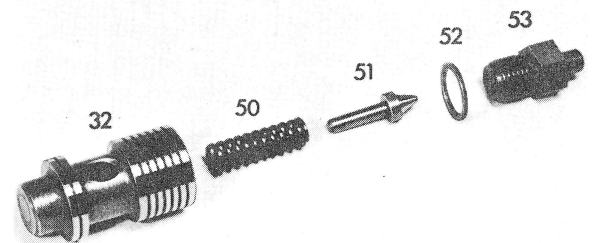

Fig. 11
Attention! Always use the same washers which were installed before (Fig. 11).
13 Clamp volume control valve (32) with its un-ground end into vise, screw-in valve screw (53) and tighten (Fig. 11).